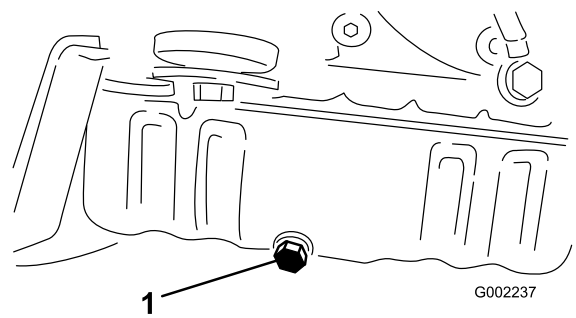

Figure 41
5. Remove the drain plug (Figure 41).